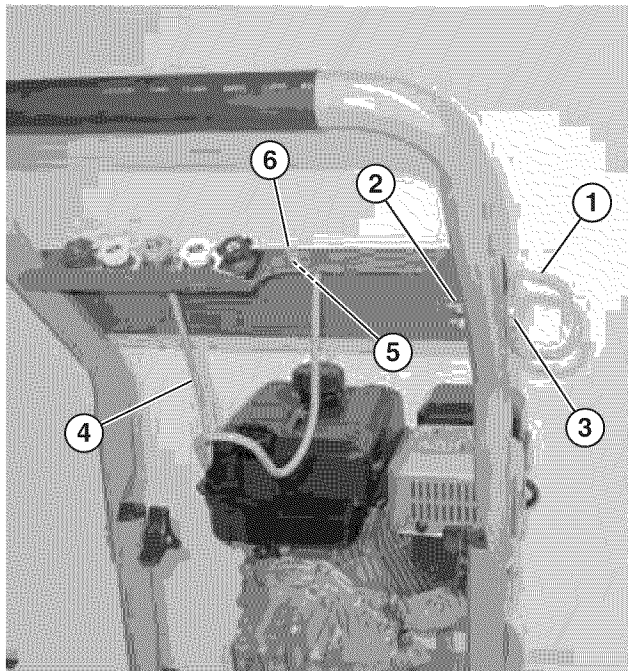

Figure 22 – Installing Spray Gun Bracket and Hose Bracket
8. Install the spray gun bracket using the two spray gun bracket nuts and bolts (M6). Tighten securely (see Figure 22).
9. Install the hose bracket using the two hose bracket nuts and bolts (M6). Tighten securely (see Figure 22).